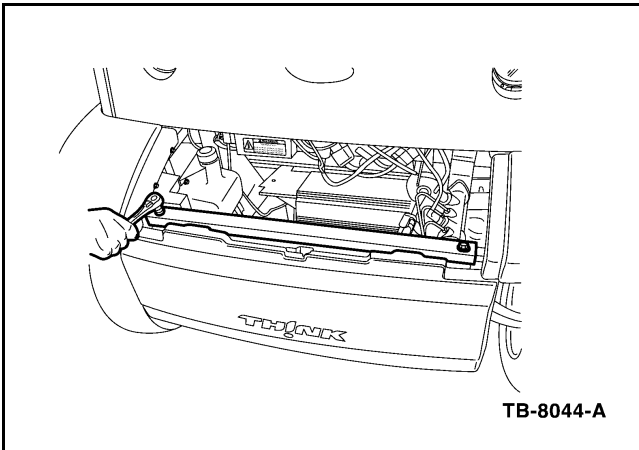

Figure 3 - Article 04-24-9
12. Remove front bumper and front cross support (Figure 3).